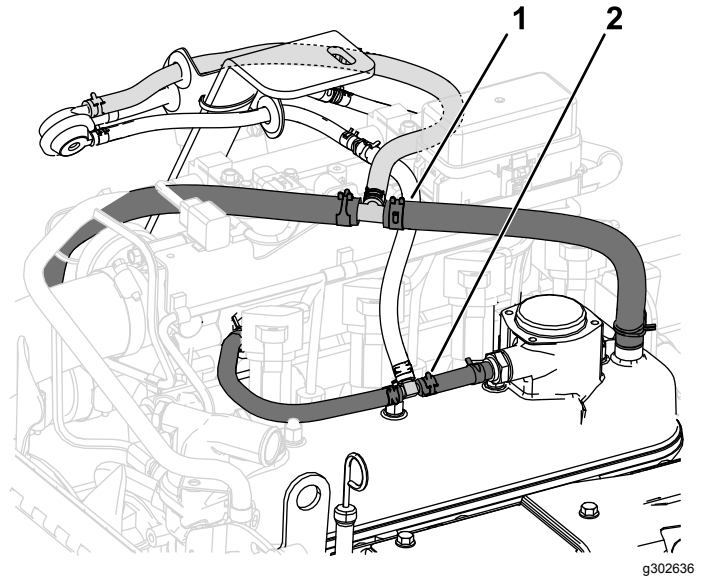

Figure 7
6. Connect the 1/4 inch branches of the T-fitting to the cut ends of the PCV hose with hose clamps (1/2 inch) as shown in Figure 7.
8. Connect the 1/2 inch branches of the T-fitting to the cut ends of the vacuum hose with hose clamps (13/16 inch) as shown in Figure 7.